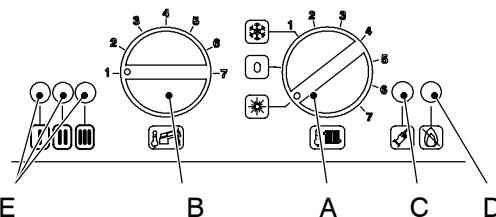

Fig. 36
- 4 Turn the boiler ON positioning the function selector knob A as indicated in Fig. 36 and ensure that the timer selector switch and room thermostat, if fitted, are set to "heat demand".